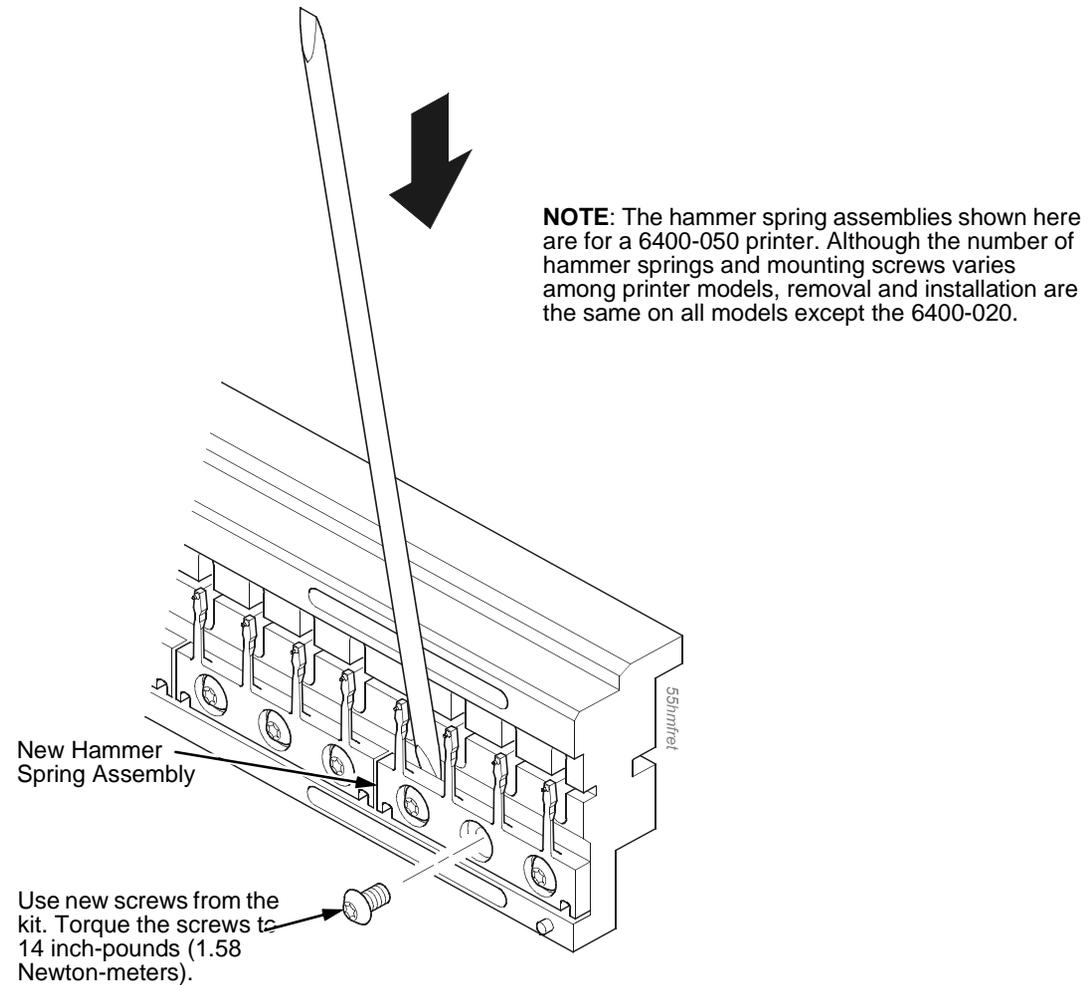

Figure 19. Installing a Hammer Spring Assembly on a Single Hammer Bank
3. Handling the hammer spring assembly by the mounting base only, carefully position the new hammer spring assembly onto the hammer bank mounting pins and press it into position with the flat end of the stick supplied in the hammer spring replacement kit. (See Figure 19, page 389.)
4. Install the mounting screws from the replacement kit. Using a Torx T-10 bit adapter, torque each screw to 14 inch-pounds (1.58 N•m). Tighten the center screw(s) first. (See Figure 19, page 389.)